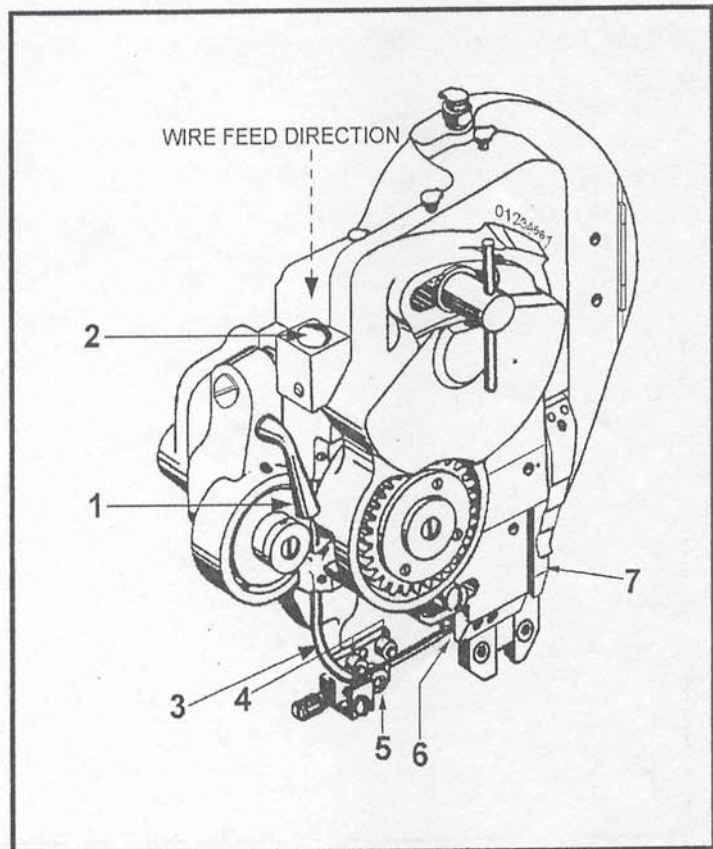

Figure 1-Threading Wire on Head
1. How to Thread Wire on Head (See Figure 1).
A. Disengage the wire feed gears by raising the gear throw-out handle (1) to its open position.
D. Thread the wire through the oiler felt and retainer (2) and into the upper wire tube.